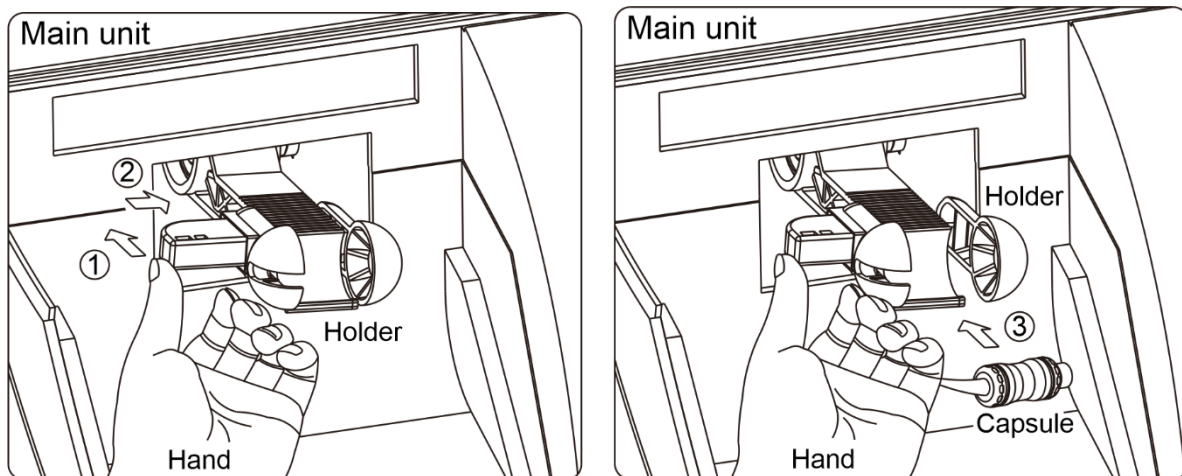

Fig 3
- 4) Open the transparent protecting shield and fix the capsule onto the mixer’s holder, then close the cover, As shown in Fig.3.